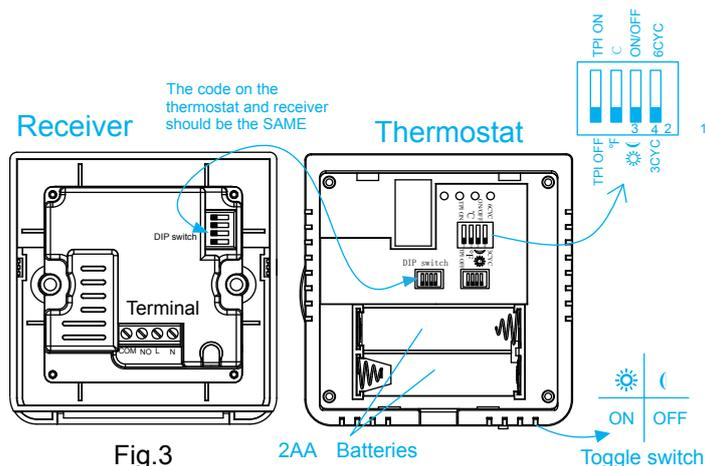

Fig.3
- Fit two fresh AA alkaline batteries in the battery compartment of the thermostat. Check LCD to confirm batteries correctly fitted(see Fig. 3).
There are one 4 DIP switch on the back of the receiver and two 4 DIP switches on the back of the thermostat. Before installation, the installer needs to set the DIP switches first. The one of the 4 DIP switch is used for RF code setting. The thermostat and receiver are automatically paired when you receive them, however, if there is another unit nearby(e.g. in a neighbours home) the thermostat may trigger their receiver. To avoid this you can change the RF address code on both the thermostat and receiver as per Fig. 3. Another 4 DIP switch on the thermostat is used to set below control modes. Please set the position of the DIP switch as per the DIP switch label(see Fig. 3):